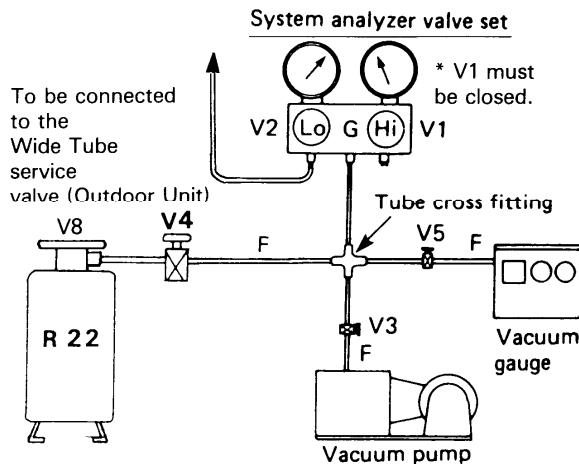

Fig. 23
1) Prepare the system analyzer valve set and connect charging hoses as in Fig. 23. Be sure to close all valves before connection. (Refer to page 25, Fig. 35-C)